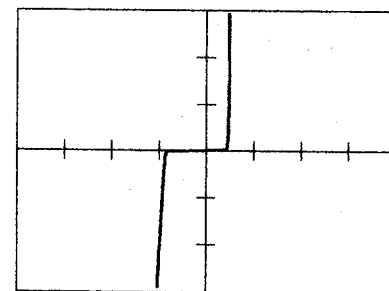

Fig 1
See fig 1.
Switch to LED .(1) BLUE S1 See Fig 1.